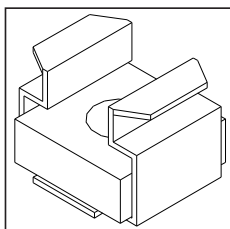

Figure 9: Square Bolt.
There are two (2) leveling legs and they can be found inside the manual bag. Each leveling leg consists of a long bolt, a hex nut, a washer, and a square bolt with clip (see Figure 9). For installation of the leveling legs the unit should be on its back and a $\frac{1}{2}$ " wrench is required for adjustments.